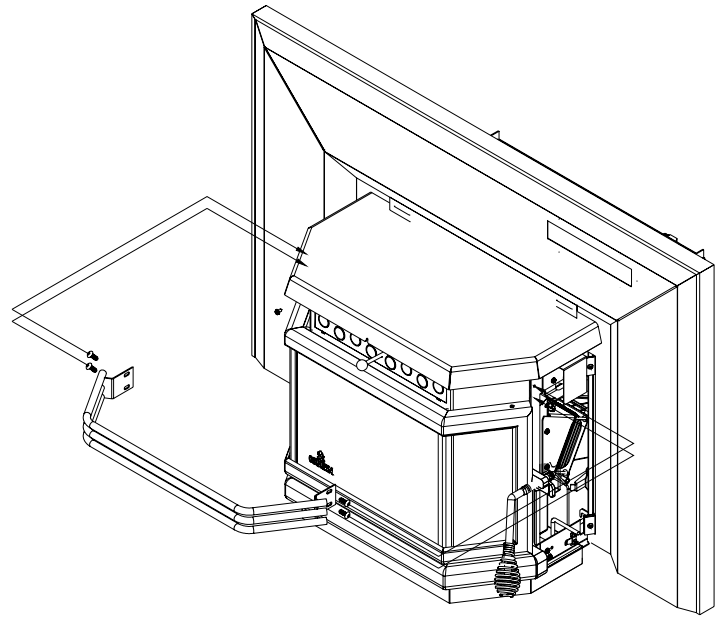

Figure 34
- 8- Install the louvers assembly to the stove.(Figure 34)